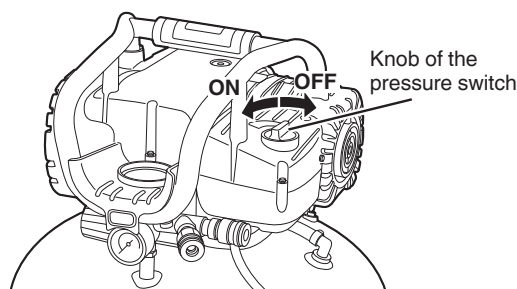

Fig. 2
Ensure that the knob of the pressure switch is in the "OFF" position (Fig. 2). If the plug is connected to a receptacle while the knob is in the "ON" position, the compressor will start operating immediately and can cause serious injury.
Insert the plug into the receptacle and start the compressor using the knob of the pressure switch. (Refer to Fig. 2).
- (1) Place the knob of the pressure switch in the "OFF" position. (Refer to Fig. 2).
- (2) Unplug the plug from power source.
- (1) Place the knob of the pressure switch in the "OFF" position and disconnect the plug from the receptacle (Fig. 2).
- (2) Check for the following possible causes first: lack of proper ventilation, or an outside-air or room temperature that is too high.
- (3) If the extension cord does not conform to the specifications given on page 7 replace with an extension cord such as that shown on page 7. If the capacity of the power supply is insufficient, increase the power supply capacity to remove the cause of a flow of excessive current (over-current).
- (4) Wait approximately 30 minutes.
- (5) Start up. If the motor still stops during operation, please contact the service center.